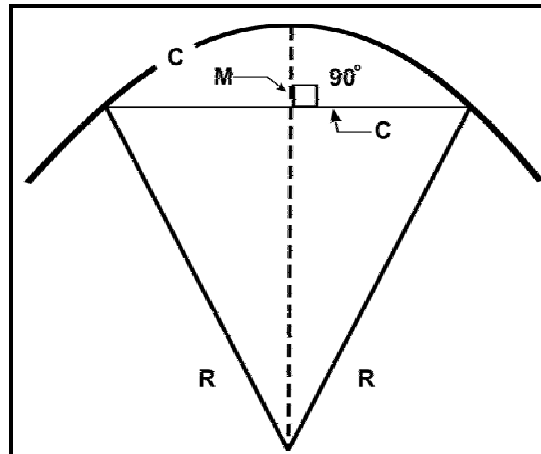

Figure 14-4. Formula method for determining curve radius.
- Curves with a radius of 25 meters and less (see Figure 14-4).